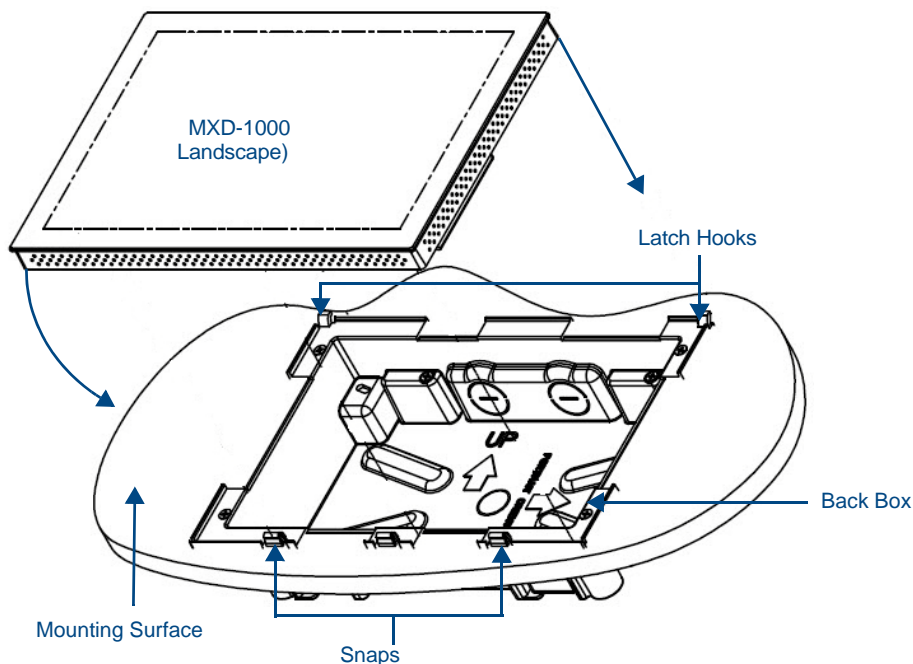

FIG. 19 Installing the MXD-1000
12. Latch the panel onto the top hooks on the back box and push it down (Landscape) onto the bottom snaps or on the left side and push it to the right (Portrait) (FIG. 19). Press gently but firmly on the ends until the snaps “click” to lock it down
The MXD-1000 is held in place to the back box via latch hooks and clips on the back box (FIG. 19), securing it to the mounting surface. In certain circumstances, such as firmware updates or other maintenance that requires accessing the device's USB or Micro-USB ports, the device may need to be removed from the back box. The clips that lock down the MXD-1000's bottom edge (Landscape) or right edge (Portrait) may be unlatched in order to remove the device from the mounting surface.